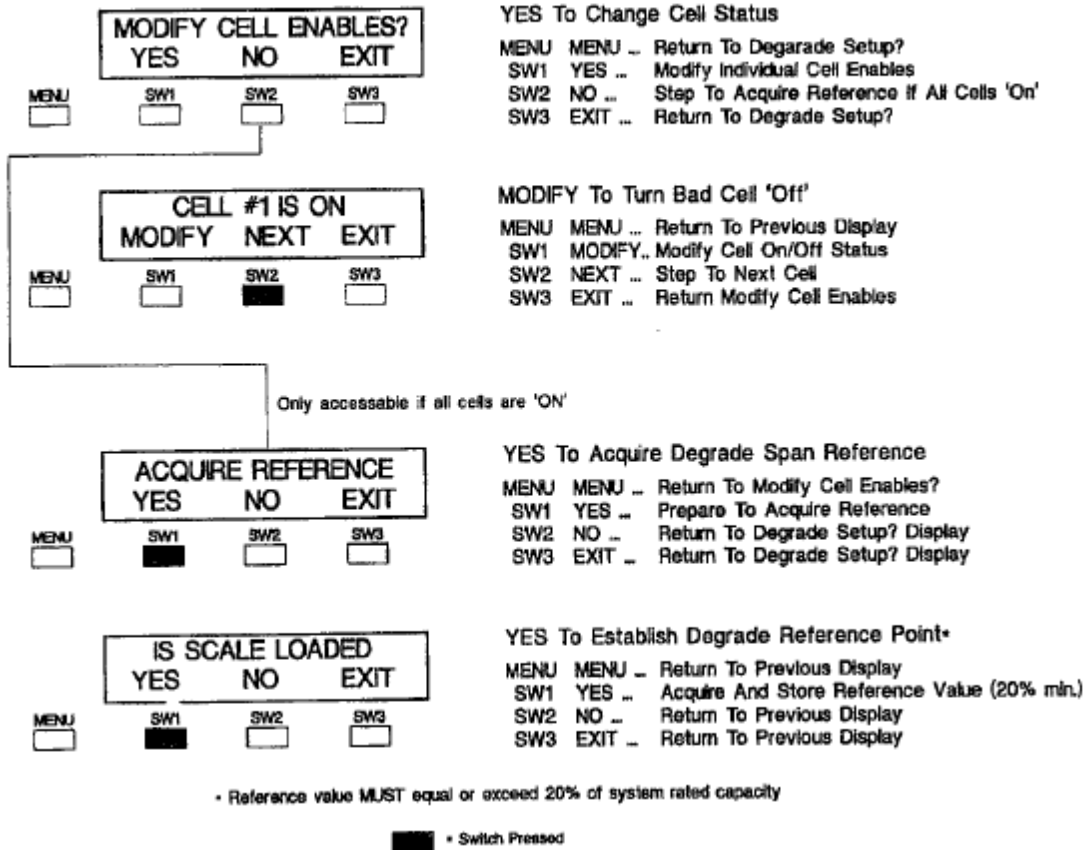

Figure 5-10. Degrade Mode Cell Selection and Reference.
To activate degraded mode operation it is necessary to shut-off the suspect channel using the Cell Enable menu (Figure 5-10) accessed via the keypad. It is not possible to automatically activate this mode internally or remotely through the serial port.
- [3] Proceed to the Degrade Setup Menu (Figure 5-10) and make sure all transducers are 'On'.